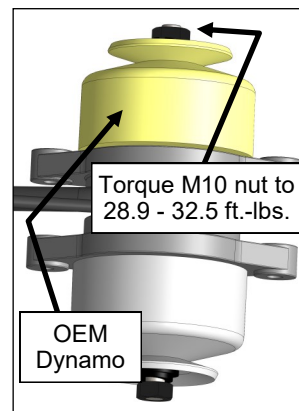

Fig. 2.3
- 2.3 Suggestion: Hold a 5/8" open-end wrench sideways in a bench vise for this step. Per fig. 2.3, orient the dynamo assembly vertically so the OEM dynamo is on top. Place the dynamo assembly into the open end of the wrench so the flats on the shaft fit properly. Ensure that the flat washer is centered on the shoulder of the shaft when tightening. Torque the M10 hex nut to 28.9 - 32.5 ft-lbs. (39.2 - 44.1 Nm) on the OEM dynamo.